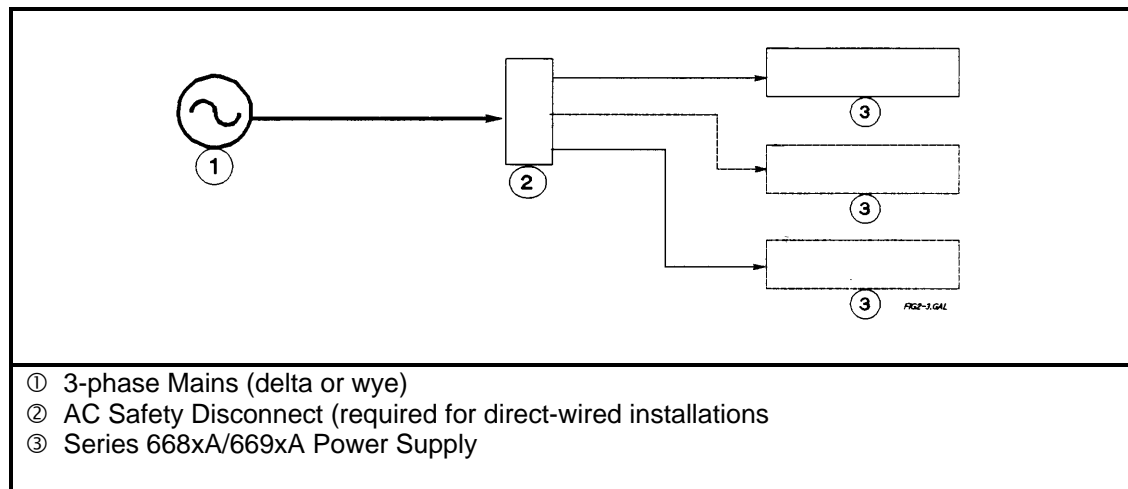

Figure 2-4. Series 668xA/669xA Overall Wiring Diagram.
The Series 668xA power supply requires a 3-phase power source that provides 7350 VA (6000 W) maximum. The supply has a delta input (no neutral connection) and will accept power from either delta (triangle) or wye (star) sources. Two voltage ranges are available (see "AC Input Ratings" in Table 1-4a). *In order to maintain phase current balancing, the power source should be a dedicated line with only Agilent Technologies Series 668xA/669xA supplies drawing current from it.* A disconnect box located near the power supply (see Figure 2-4) is recommended for all installations and is *mandatory for direct-wired installations.*
The Series 669xA power supply requires a 3-phase power source that provides 9000 VA (7950 W) maximum. The supply has a delta input (no neutral connection) and will accept power from either delta (triangle) or wye (star) sources. Two voltage ranges are available (see "AC Input Ratings" in Table 1-4a). *In order to maintain phase current balancing, the power source should be a dedicated line with only Agilent Technologies Series 668xA/669xA supplies drawing current from it.* A disconnect box located near the power supply (see Figure 2-4) is recommended for all power cords with plugs and *is mandatory for hard-wired power installations.*
- c. **Series 668xA** - Unscrew the fuse caps from the rear panel (2, Figure 2-4). Verify that the fuse is as specified on the label. Replace the fuse.